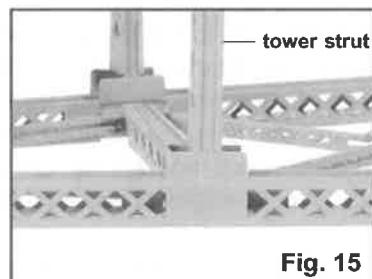
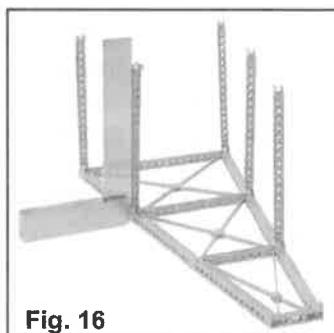

Fig. 15
Fig. 16
b. Check that the ends of the lattice on the tower strut will butt against the tower gusset plate on the bent assembly. See fig. 15. It will probably be necessary to shorten the tower strut for correct fit. Start by trimming off a small amount of the outside tab then, if necessary, file down some of the edge of the half or full gusset plate. Also, see the Tip in d. below.
d. Position each tower strut as follows; 1. so it is aligned with the double row of rivets on the tower gusset plate. See fig. 15; 2. with the tower flat on the work surface, place a square on the work surface and check that the tower strut is square in both planes, perpendicular to and in line to the tower. See fig. 16; 3. looking from above, the tower strut should be slightly twisted so it is